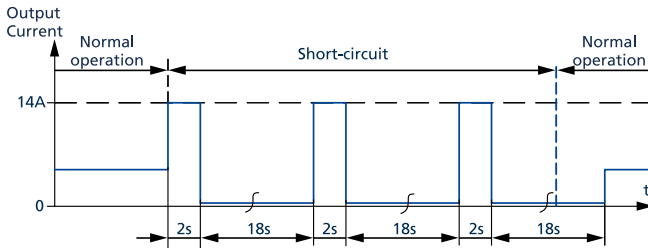

Fig. 6-3: Short-circuit on output, HiccupPLUS mode, typ.
- 3) At heavy overloads (when output voltage falls below 13 V), the power supply delivers continuous output current for 2 s. After this, the output is switched off for approx. 18 s before a new start attempt is automatically performed. This cycle is repeated as long as the overload exists. If the overload has been cleared, the device will operate normally. See Fig. 6-3.